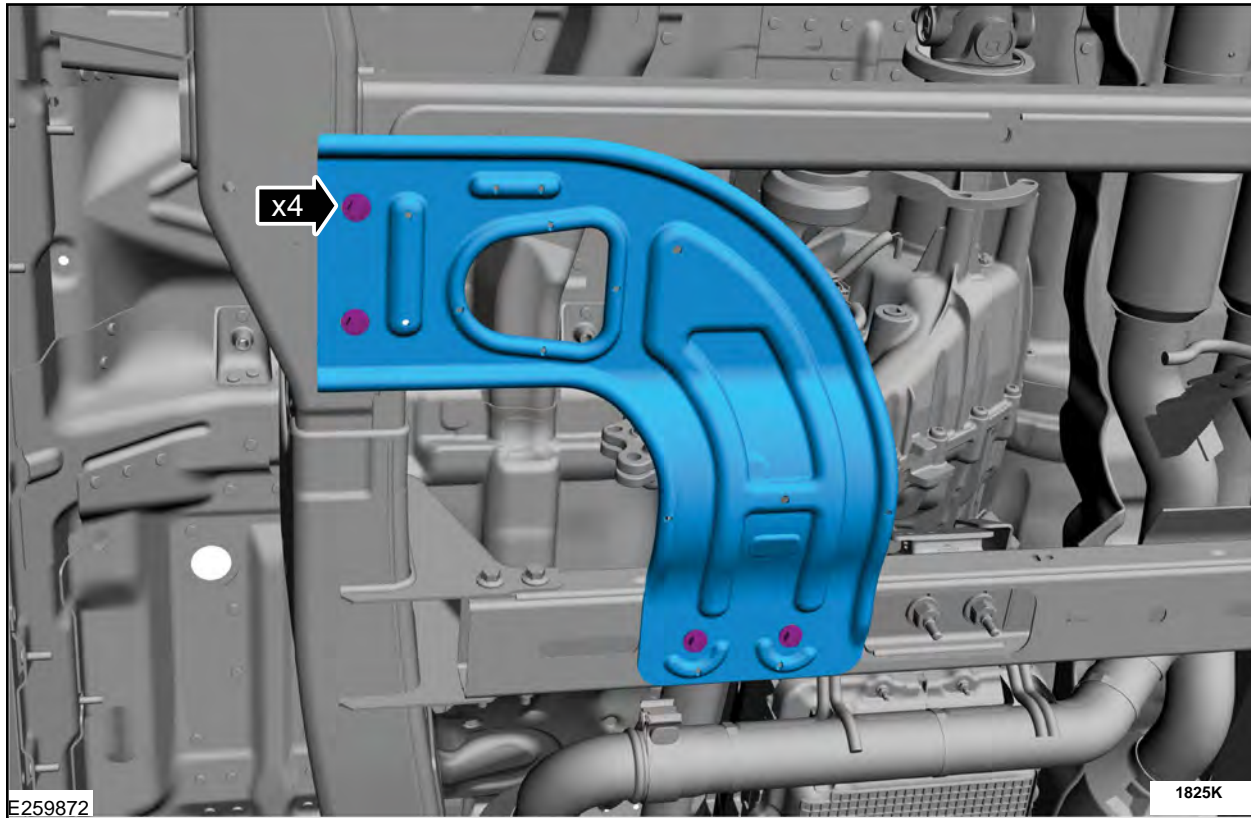

FIGURE 18
34. If equipped remove the skid plate bolts and remove the skid plate. See Figure 18.
65. If equipped install skid plat and retainers. See Figure 18.